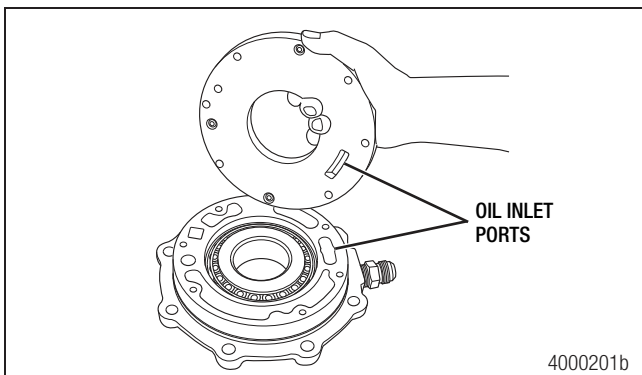

Figure 5.32
- Mark the position of the pump to the cage for reassembly. Figure 5.32.